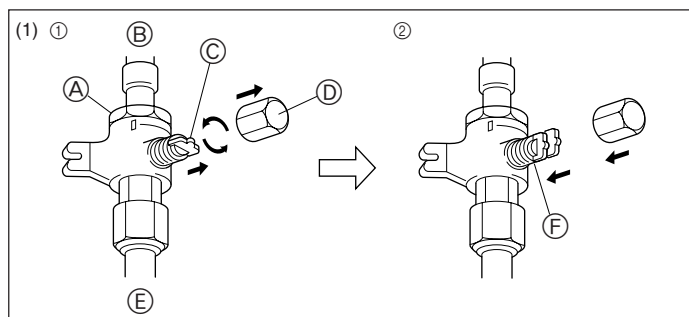

Fig. 4-5
(1) Gas side of RP60-140 (Fig. 4-5)